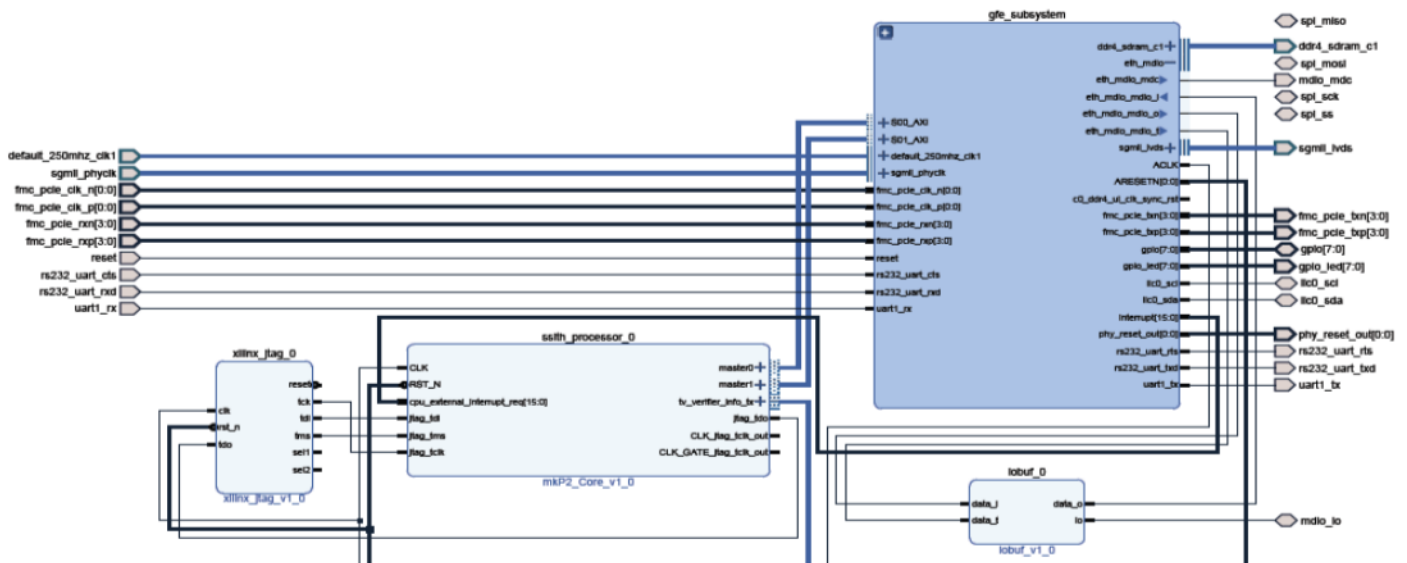

Figure 2: GFE top-level Vivado block design
The block diagram in Figure 2 is implemented using Vivado's IP Integrator design flow: https://www.xilinx.com/content/dam/xilinx/support/documentation/sw_manuals/xilinx2018_3/ug995-vivado-ip-subsystems-tutorial.pdf
The top-level GFE is a Vivado block design consisting of five instances (Figure 2): (1) a Xilinx JTAG module (xilinx_jtag_0) (2) P{1,2} processor (ssith_processor_0); (3) a subsystem block design (gfe_subsystem) that instantiates all the other Xilinx modules; (4) an Ethernet IO buffer (iobuf_0).